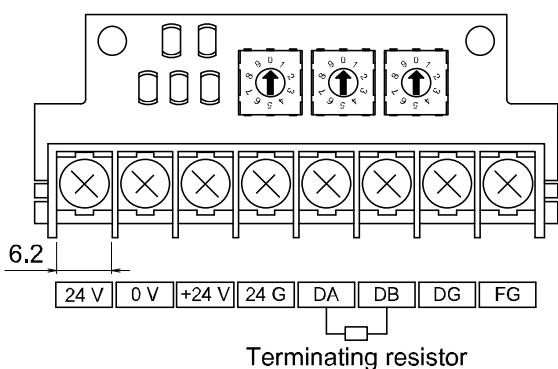

Fig. 3
(3) The appropriate terminating resistor varies depending on the CC-Link cable used. (Refer to the table and Fig. 3 below.)